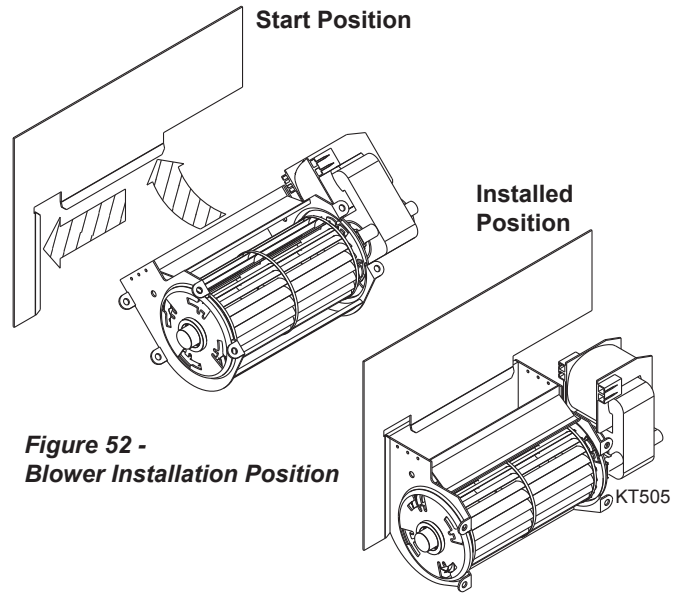

Figure 52 - Blower Installation Position
10. Turn blowers with discharge vent facing up. Slide the discharge vent so that it is facing up. Slip discharge vent flange under the flange bracket flush against the sidewall. Slide blower side tabs over into side flange. *Figure 52*. The blower is now locked in place.